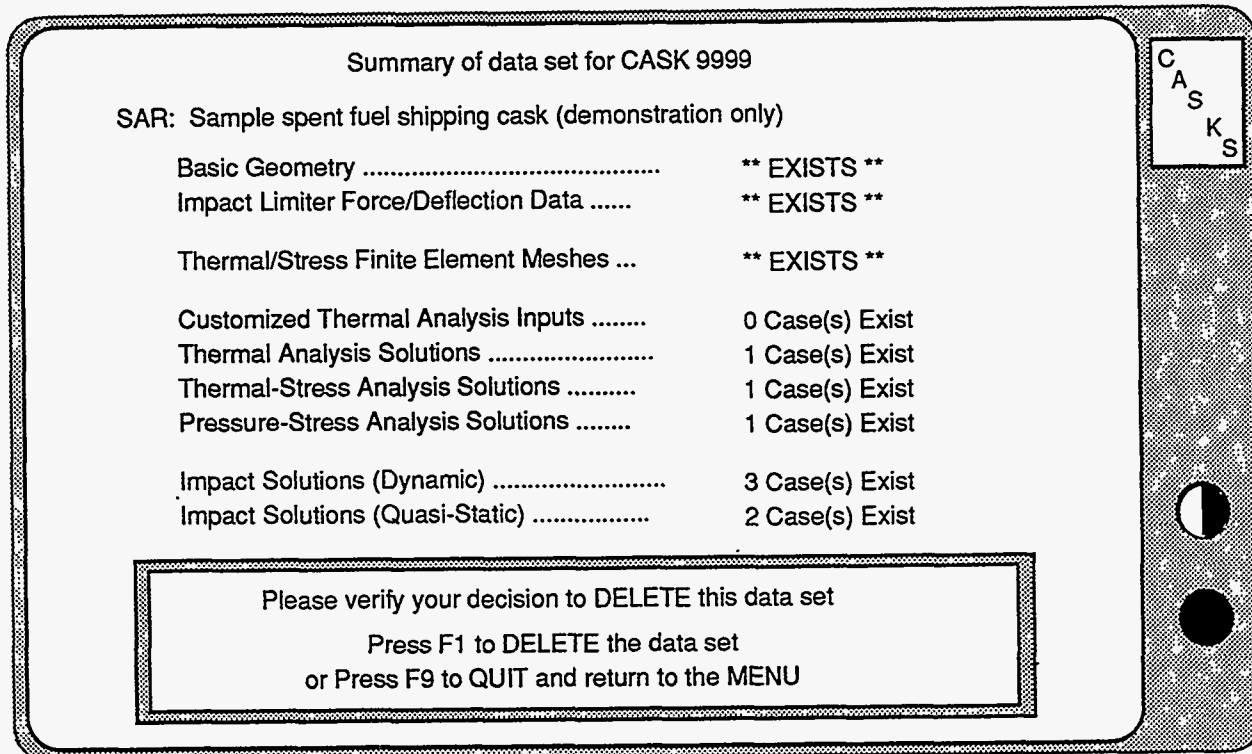

Figure 7-3. Confirm decision to DELETE screen
**CASKS** asks for confirmation before deleting the data set or output as shown in **Figure 7-3**.